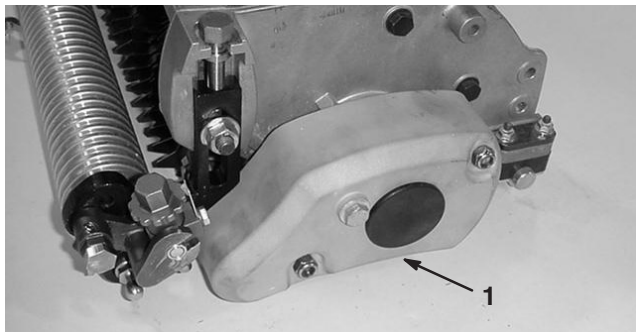

Figure 19
35. Mount cover to groomer housing assembly with (2) lock nuts (Fig. 19).